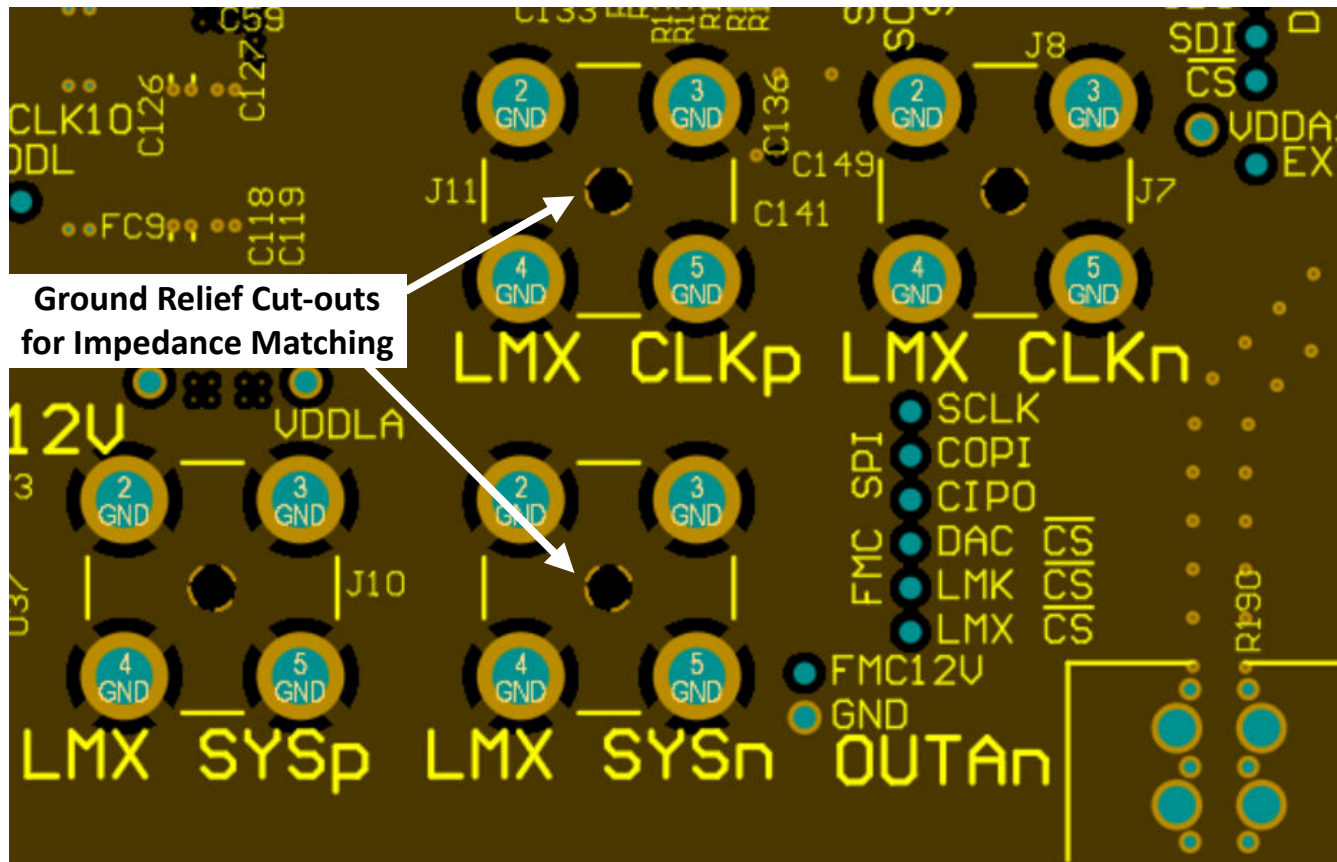

Figure 8-26. Ground Cut-out Below SMA Connector Center Pin
5. Incorporate any ground plane cutouts necessary at component landing pads, ie – SMA connectors, baluns, etc., to avoid impedance discontinuities at these locations. Cut-outs below these landing pads on one or multiple ground planes to achieve a pad size or stackup height that achieves the needed 50-Ω, single-ended impedance. See Figure 8-25 and Figure 8-26 as an examples.